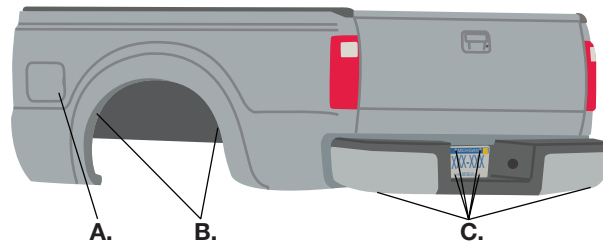

fig. C.22
11. Make sure the emergency brake cable is above the upper brackets (Fig. C.22).